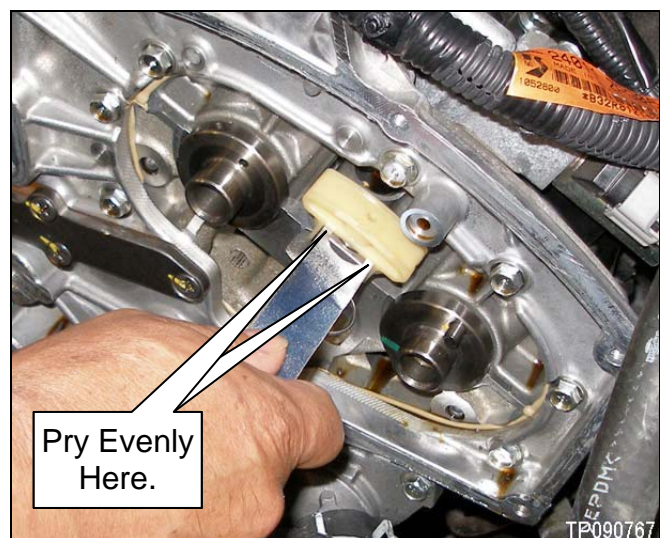

Figure 2
- Remove the Secondary Timing Chain Tensioner Shoes (shoe) by evenly prying with a couple pocket screwdrivers or suitable tool where shown in Figure 2.